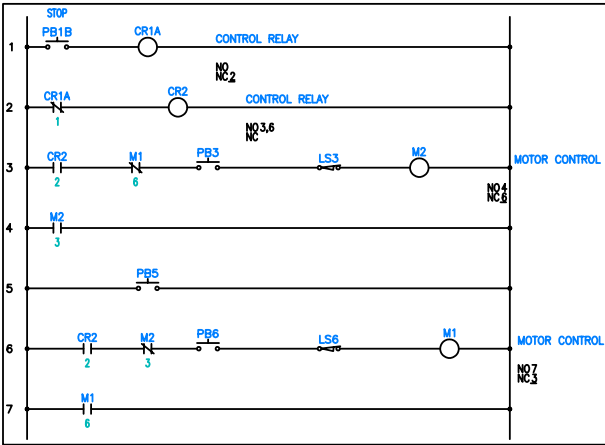

Figure 6-53 M2 moved to a different location
3. Enter **13,13** at the Command prompt and press ENTER; M2 is moved to a new location in rung 6, as shown in Figure 6-53.